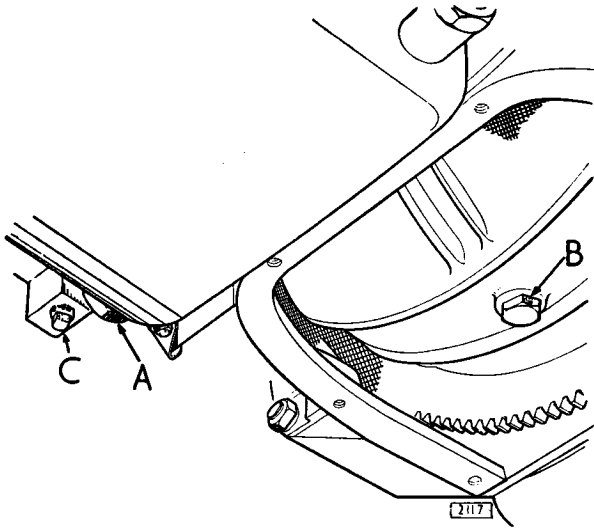

Fig. 33. *Automatic transmission drain plug. (The converter housing cover plate has been removed).*
4. Remove the transmission oil pan drain plug. (A, Fig. 33).
5. Remove the converter housing cover plate and rotate the converter until the drain plug is in position for draining. Remove the converter drain plug. (B).
6. To facilitate draining, remove the square-headed converter pressure take-off plug from the bottom of the housing attached to the left-hand side of the transmission casing (C).